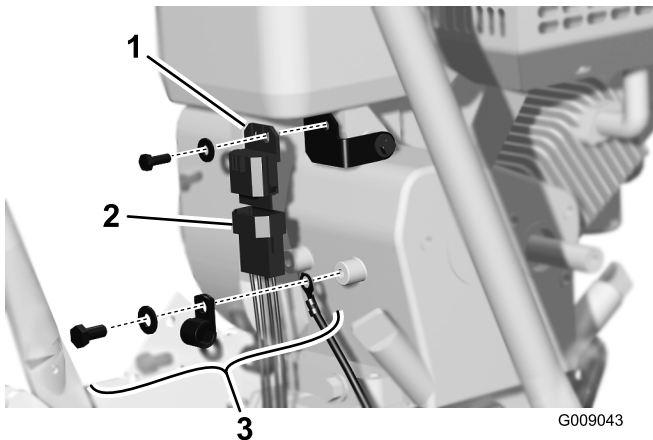

Figure 4
1. Mount the safety module, removed from old engine, to the back of the new engine with the screw and washer previously removed (Figure 4).
- A. Plug the wire harness connector into the safety module (Figure 4).
- F. Mount the harness ground wire ring terminal to the engine boss with a external tooth lock washer and cap screw (Figure 4). Use the right hand boss on the rear of the engine.